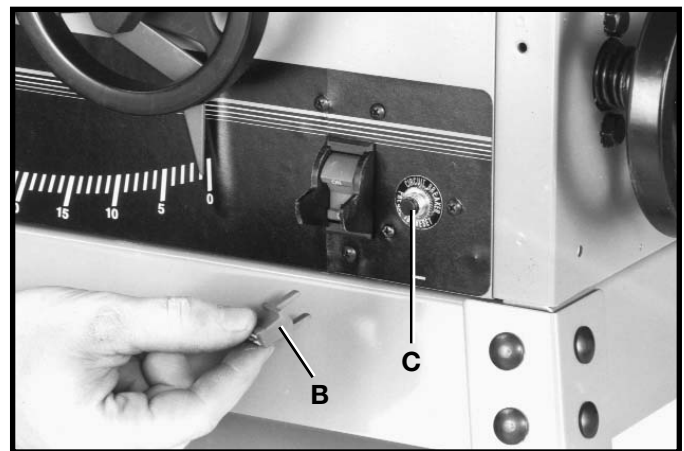

Fig. 34
IMPORTANT: When the tool is not in use, the switch should be locked in the “OFF” position to prevent unauthorized use. Grasp the switch toggle (B) and pull it out as shown in Fig. 34. With the switch toggle (B) removed the switch will not operate. However, should the switch toggle be removed while the saw is running, it can be turned “OFF” once, but cannot be restarted without inserting the switch toggle (B).
Your saw is equipped with a reset overload relay button (C) Fig. 34. If the motor shuts off or fails to start due to over-loading (cutting stock too fast, using a dull blade, using the saw beyond its capacity, etc.) or low voltage, turn the switch to the “OFF” position, let the motor cool three to five minutes and push the reset button (C), which will reset the overload device. The motor can then be turned on again in the usual manner.